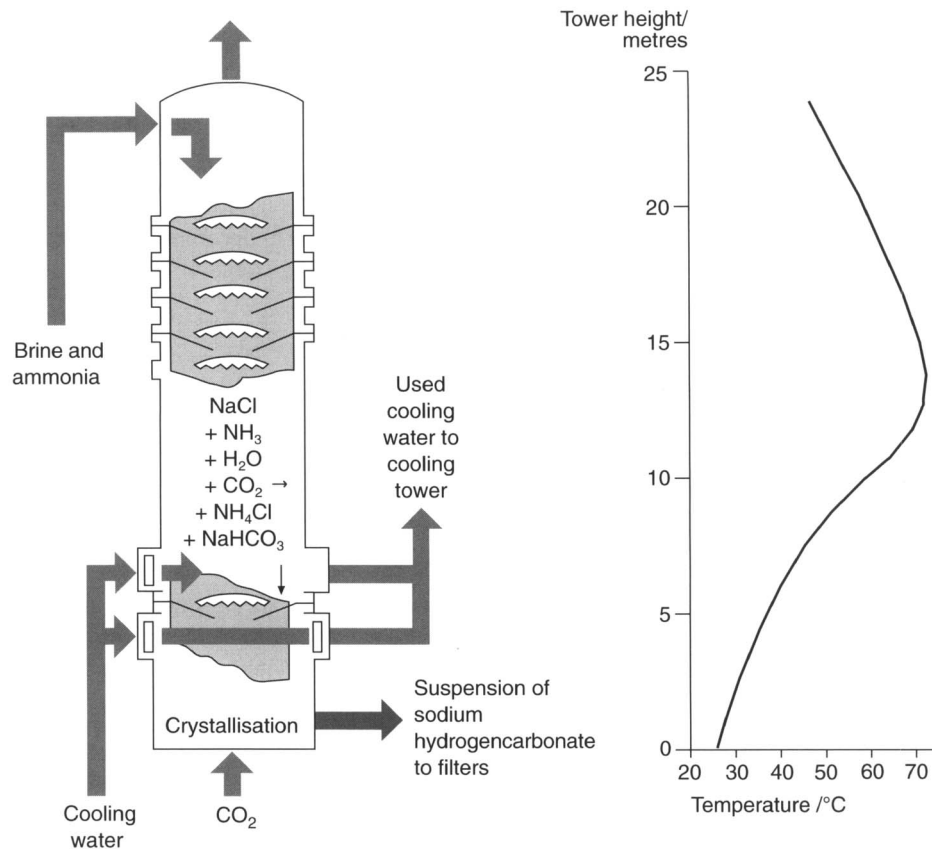

Fig 1 The temperature profile of a Solvay tower
Sodium chloride solution (brine) is extracted from underground deposits by 'solution mining'. This involves pumping water down into the salt strata. The salt dissolves, and the saturated brine is pumped to the surface. Here it is purified and mixed with ammonia before entering a tower – called the Solvay tower – where the reaction with carbon dioxide takes place, *Figure 1*. Here it reacts with the carbon dioxide according to the following equation:
Sodium hydrogencarbonate is less soluble than ammonium chloride at low temperatures. It precipitates out and is separated by vacuum filtration. Since this is an exothermic reaction careful temperature control is necessary to keep the temperature low enough for the sodium hydrogencarbonate to precipitate, *Figure 1*.
8. Explain the shape of the graph of temperature against tower height in *Figure 1*.